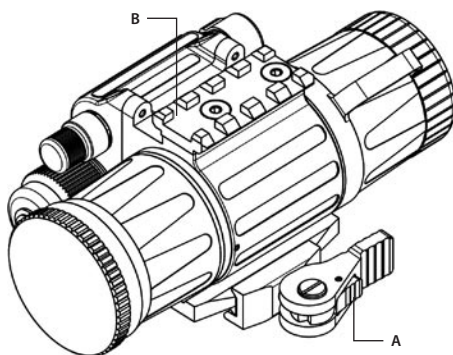

FIGURE 2-1. CO-MINI NIGHT VISION CLIP-ON DEVICE AS DELIVERED
The CO-MINI consists of two primary parts: the night vision device (hereafter referred to as “NVD”), and the quick-release mount, or mount. The CO-MINI is delivered as shown in Figure 2-1: the mount (A) and top Weaver rail (B) should be secured on the NVD seating rails with M4×8 screws.